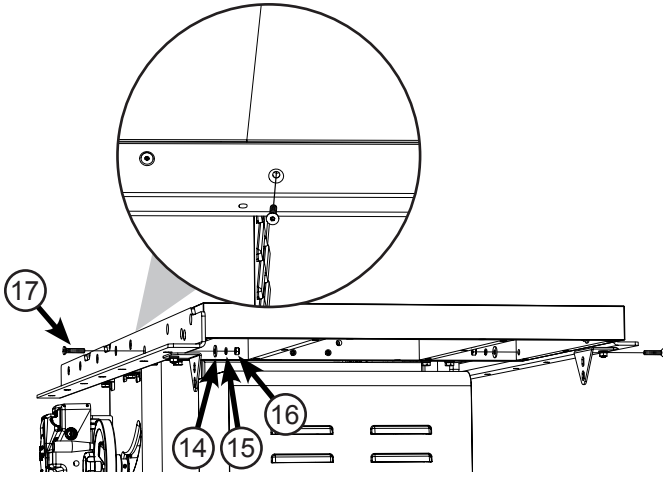
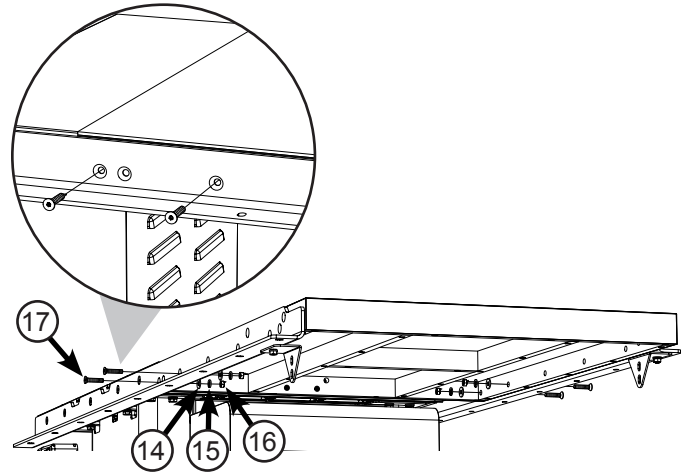

Fig. 7a
Fig. 7b
The extension table mounts to the rails with bolts that pass through holes in the rails and extension table. If you have an extension table for a 36" fence system, take two M8 x 40 countersunk socket head bolts (17) and insert one through the hole in the front rail closest to the saw and the other through the hole in the rear rail closest to the saw, as shown in Fig. 7a. If you have an extension table for a 52" fence system, take four M8 x 40 countersunk socket head bolts (17) and insert one bolt into each of the two holes in the front rail, and one bolt into each of the two holes in the rear rail, as shown in Fig. 7b.